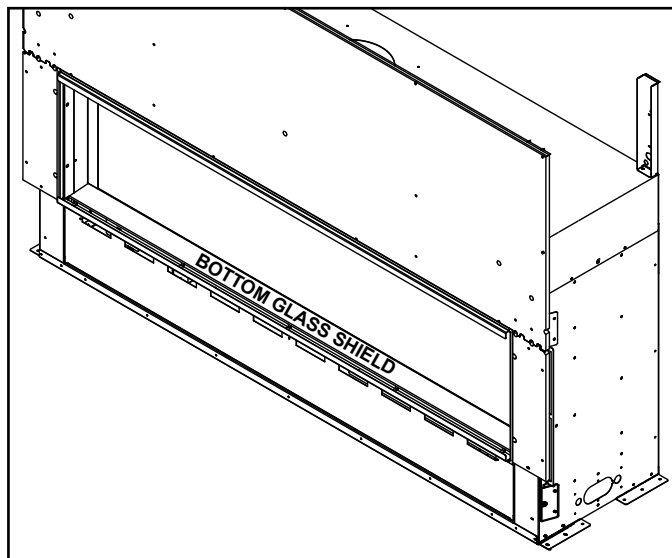

Figure 11.2 Bottom Glass Shield Location
2. Remove bottom glass shield. See Figure 11.2.
Remove shipping materials from inside or underneath the firebox. Verify all components are with the fireplace. Unwrap the bottom glass shield and replace in the same location as shown in Figure 11.2.